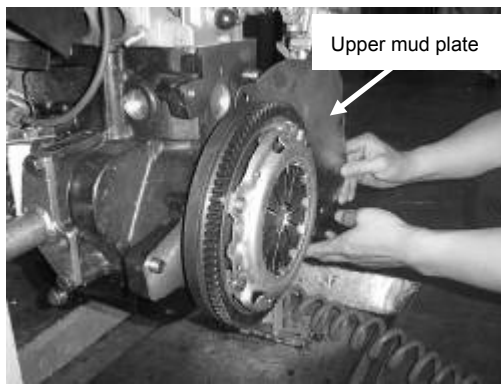
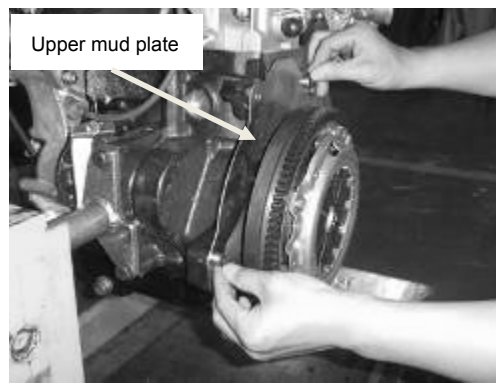

Figure 49
Figure 48
12. Fix upper mud plate (See Figure 48, Figure 49, Figure 49)